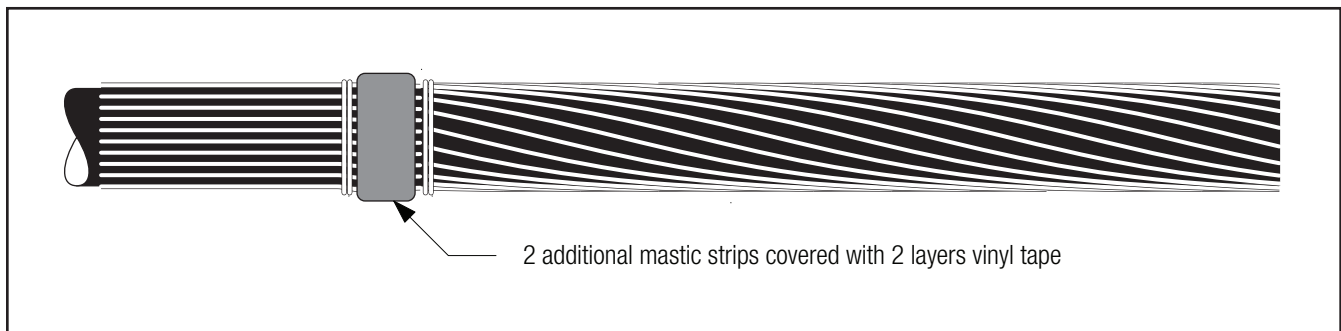

Figure 8
- 2.3.4 Wrap two additional strips of mastic over the first one and cover with two half lapped layers of vinyl tape (*Figure 8*).